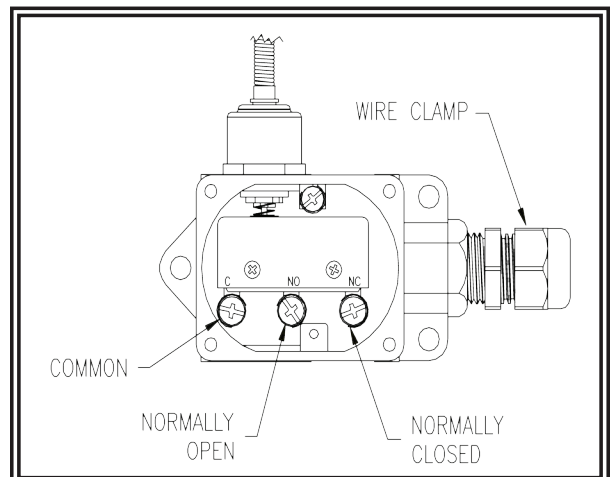

Figure 1
3. Remove the cover from the switch housing. Crimp a spade terminal onto the wire ends to ensure proper connections. Insert wires through the wire clamp, into the switch housing. Connect the fused power supply to the Common (C) terminal, and the back-up alarm power wire to the Normally Open (NO) terminal. Do not make any connection to the normally closed (NC) terminal. See Figure 1.